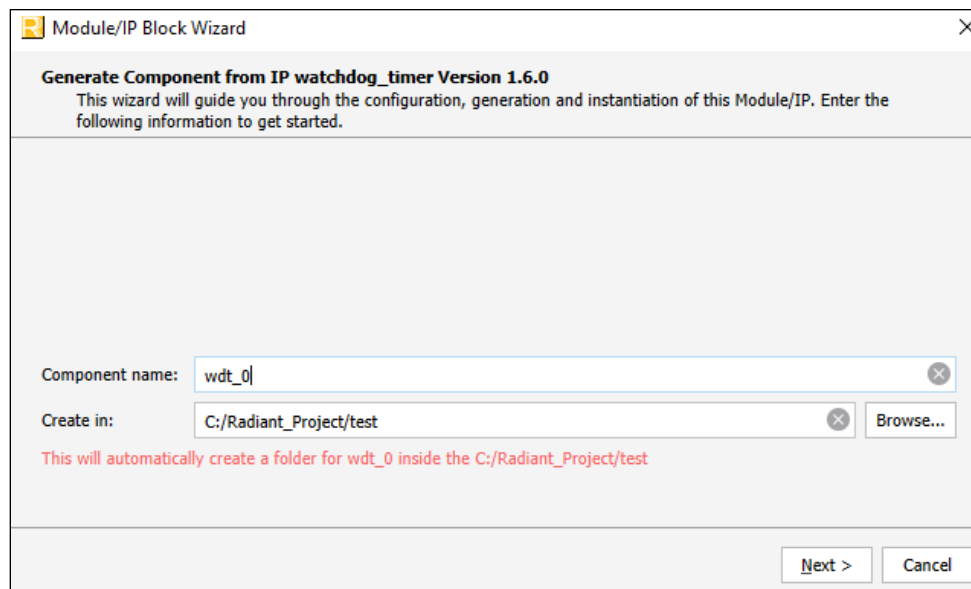

Figure 7.1. Module/IP Block Wizard
2. In the **IP Catalog** tab, double-click on **Watchdog Timer** under **IP, Processors, Controllers, and Peripherals** category. The **Module/IP Block Wizard** opens, as shown in Figure 7.1. Enter values in the **Component name** and the **Create in** fields and click **Next**.
- Click **Finish**. All the generated files are placed under the directory paths in the **Create in** and the **Component name** fields, as shown in Figure 7.1.